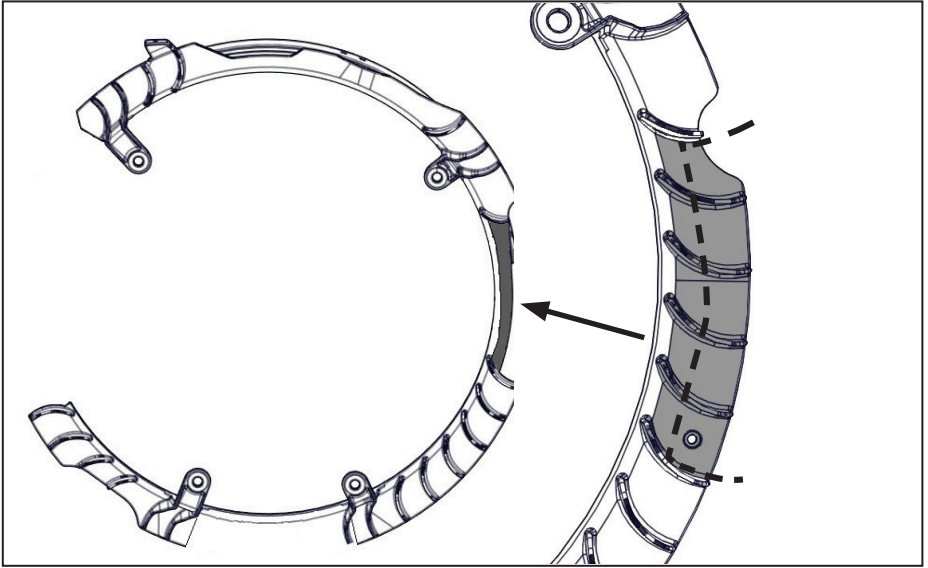

Figure 40 — Stator modifications
- From the OEM notch on the top right of the stator, count clockwise (x6) vanes and mark the outer edge, tracing the profile of the cowl (Figure 40).
- Using a die grinder or similar tool, cut the hard plastic lip flush with the cowl of the stator (Figure 40).